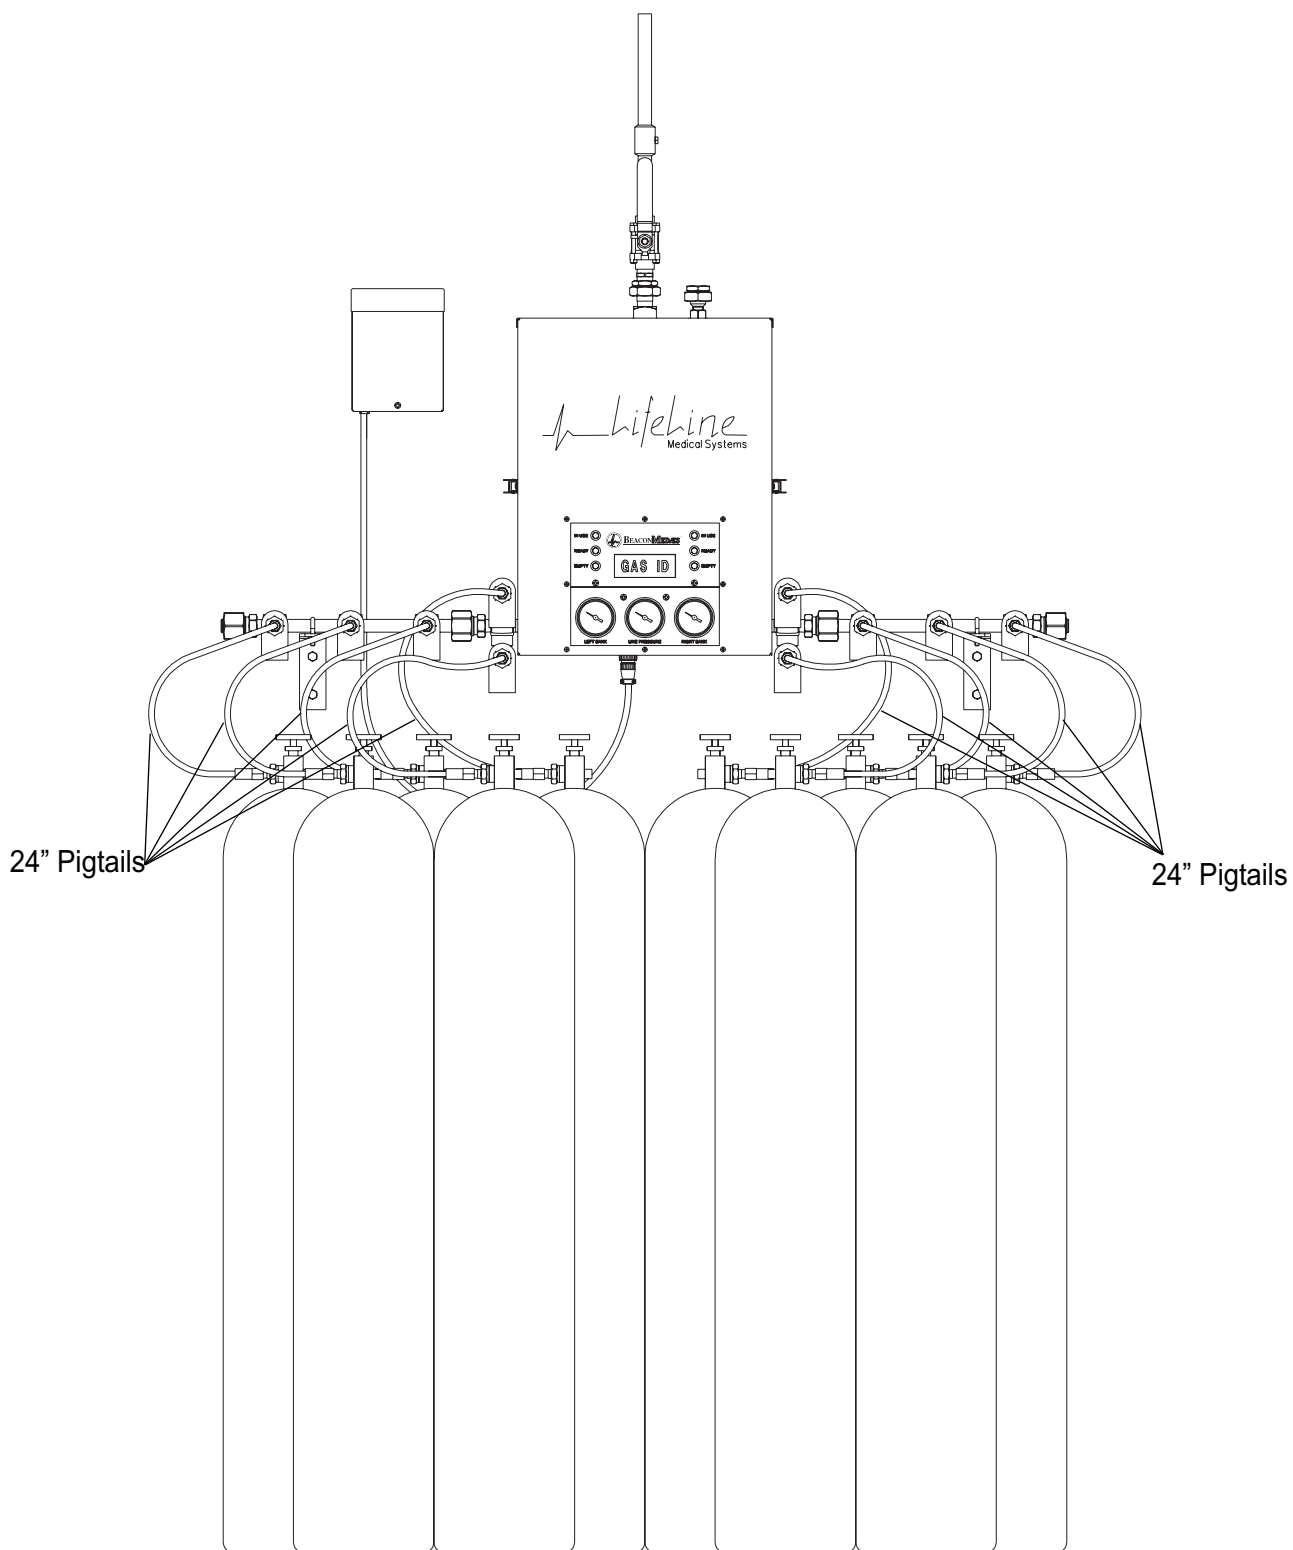

Figure 11
Figure 11 illustrates a typical 5 x 5 manifold system utilizing 24" length flexible pigtails.
3. Position gas cylinders as shown in Figures 11 and 12. Secure each cylinder to wall or floor stand with chains or straps.